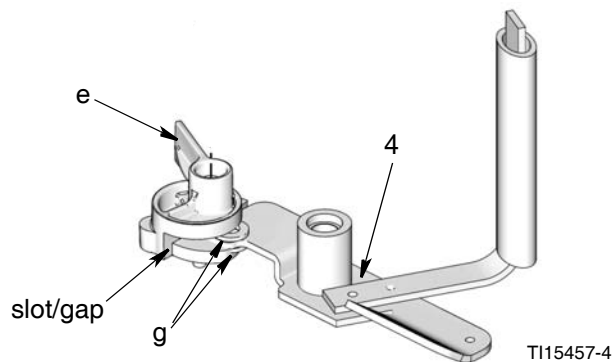

FIG. 10
- c. To correctly assemble the low level paddle (e) to the stirring paddle (4), slide the stirring paddle and washers into the slot / gap (FIG. 10).